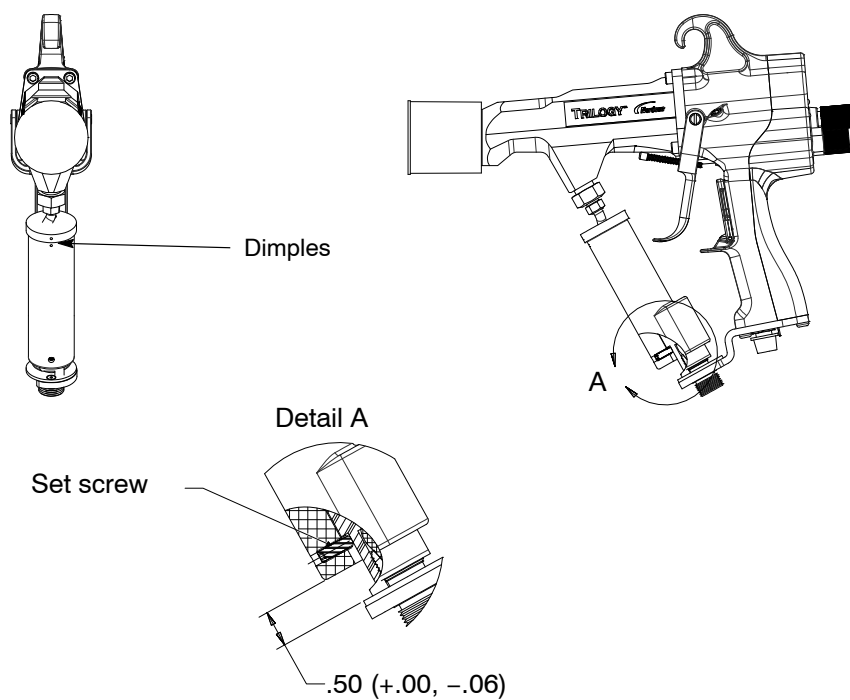

Figure 1 Isocoil Assembly Cutaway View
2. Remove the metal straight fitting (9) from the cable bracket (12).
3. Verify that the top adapter (2) is positioned so that it is flush with the end of the Isocoil tubing (4).
4. Insert the male threaded end of the assembly into the fluid boss on the spray gun extension and hand tighten. Using a customer-supplied wrench, tighten the adapter nut (2) into the fluid boss an additional 1/4 to 1/2 turn.
5. Hand tighten the hose nut (3) into the adapter nut (2). Using a customer-supplied wrench, tighten the adapter nut (3) an additional 1/4 to 1/2 turn.
6. Loosen the cable bracket (12) by removing the two screws (13) at the bottom of the spray gun handle.
7. Install the straight fitting (9) onto the cable bracket (12) with the two screws (10).
**NOTE:** Ensure that the ferrule (8) is installed on the coil tube (4) and positioned inside of the retainer cap (7) prior to installing the Isocoil Assembly.
8. Insert the bottom end of the coiled tube (4) with retainer cap (7) onto the straight fitting (9). Thread the retainer cap onto the fitting while holding the cable bracket (12) from rotating. Thread the cap until almost hand tight.
9. Align the two holes in the cable bracket (12) with the mount holes at the bottom of the spray gun handle. Install two screws (13) and hand tighten them using a customer-supplied screwdriver.
10. Tighten the retainer cap (7) until hand tight. Using a customer-supplied wrench, tighten the retainer cap onto the straight fitting an additional 1/4 to 1/2 turn until one of the flats on the retainer is facing the gun handle. See Figure 1.
11. Using a customer supplied 3/32 in. hex tool, tighten the set screw (11) in the housing retainer (5) until the set screw bottoms flush against the flat of the retainer cap (7). The housing retainer should not twist from the retainer cap. See Figure 1, Detail A.
See Figures 1 and 2.
1. Push the coiled fluid tube (4) into the housing (5) from the top. The housing cap (6) has an exit hole for the tube shifted to one side. Install on top of the housing the cap oriented so that the tube exits the housing shifted toward the spray gun trigger. Align the dimple marks on the edge of the cap and the edge of the housing. See Figure 1.
2. Slide the nut (3) and ferrule (1) on the tube on top of the housing.
3. Thread the adapter (2) onto the nut (3) with the adapter positioned so that it is flush with end of the Isocoil tubing (4).
4. Feed the opposite end of the coiled tube into the tapered end of the retainer cap (7).
5. Slide the bottom ferrule (8) with the tapered end toward the straight fitting (9) onto the bottom end of the Isocoil tube (4).
6. Insert the top end of the Isocoil with the male thread of the adapter nut (2) into the fluid boss on the spray gun and hand tighten. Using a customer-supplied wrench, tighten the adapter nut (2) into the fluid boss an additional 1/4 to 1/2 turn.
7. Hand tighten the hose nut (3) into the adapter nut (2). Using a customer-supplied wrench, tighten the adapter nut (3) an additional 1/4 to 1/2 turn.
8. Insert the bottom end of the Isocoil tube (4) with retainer cap (7) onto the straight fitting (9). Thread the housing retainer cap (6) onto the straight fitting while preventing the cable bracket (12) from rotating. Thread the cap until almost hand tight.
9. Align the two holes in the cable bracket (12) with the mount holes at the bottom of the spray gun handle. Install two screws (13) and hand tighten using a customer-supplied screwdriver.
10. Tighten the retainer cap (7) until hand tight.
11. If the new Isocoil tube (4) extends below the bottom edge of the straight fitting (8), perform the following steps. If the bottom of the Isocoil tube is inside the straight fitting, go to step 12.
- a. Using a permanent black marker, mark the outer diameter of the tube where it would be flush with bottom of the straight fitting (9).
- b. Loosen the retainer cap (7) at the bottom of the Isocoil Assembly.
- c. Remove the two screws (13) at the bottom of the spray gun handle and loosen cable bracket (12).
- d. Remove the retainer cap (7) and ferrule (8) from the Isocoil Assembly.
- e. Using the permanent mark made in step a. as a starting point, measure 3/8" toward retainer housing (5) and make a new permanent marker mark on outer diameter of the tubing.
- g. Feed the end of the coiled tube back into the internal tapered end of the retainer cap (7).
- h. Slide the bottom ferrule (8) with the tapered end toward the straight fitting (9) onto the bottom end of the Isocoil tube (4).